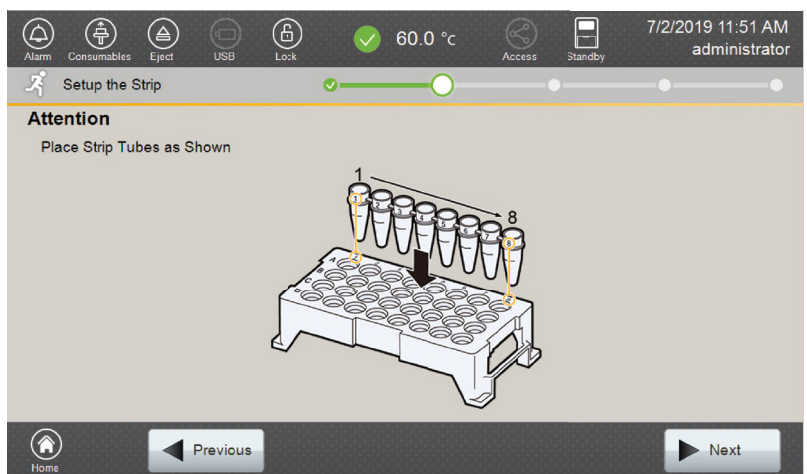

Figure 58. 'Setup the Strip' screen.
3. Select **Next** to proceed to the message screen for placement of strips into the sample cartridge (Figure 58).
4. Follow the message screen for placement of strips into the sample cartridge (Figure 58).